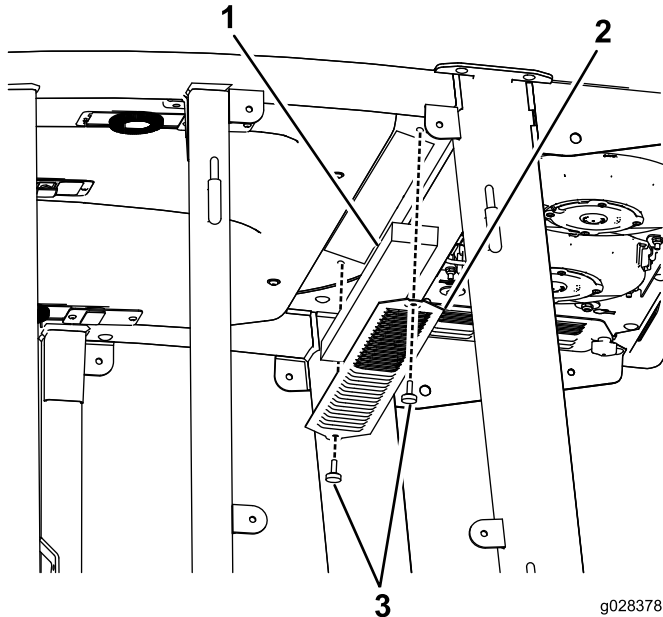
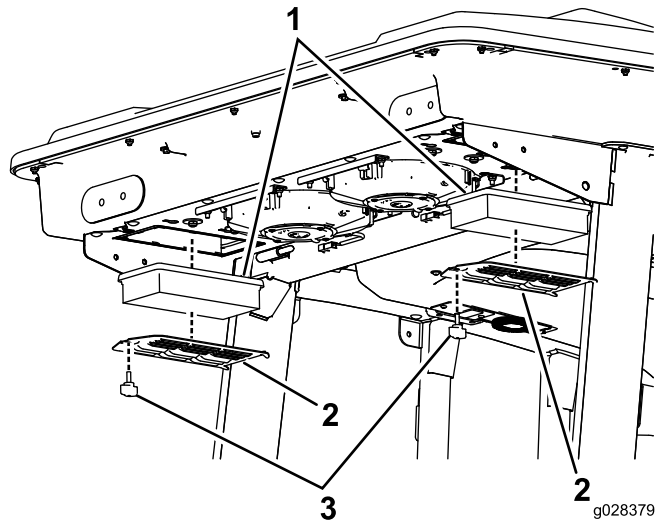
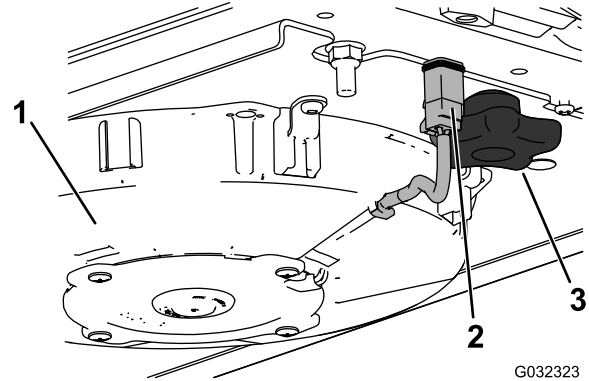
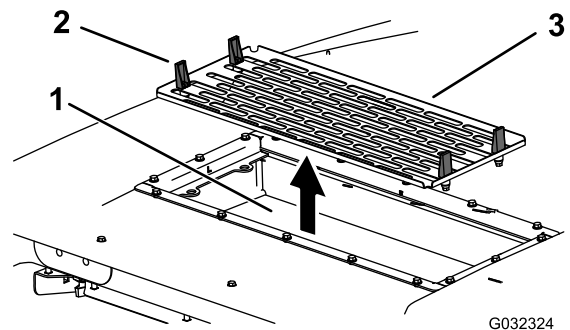

Figure 102
Figure 103
Figure 104
Figure 105
1. Remove the screws and grates from both the in-cab and rear cab air filters (Figure 102 and Figure 103).
5. Remove the air filters (see Figure 103).
7. Install the air filters, screen, and fan assembly (Figure 103, Figure 105, and Figure 104).
8. Connect the wire for each fan (Figure 104).